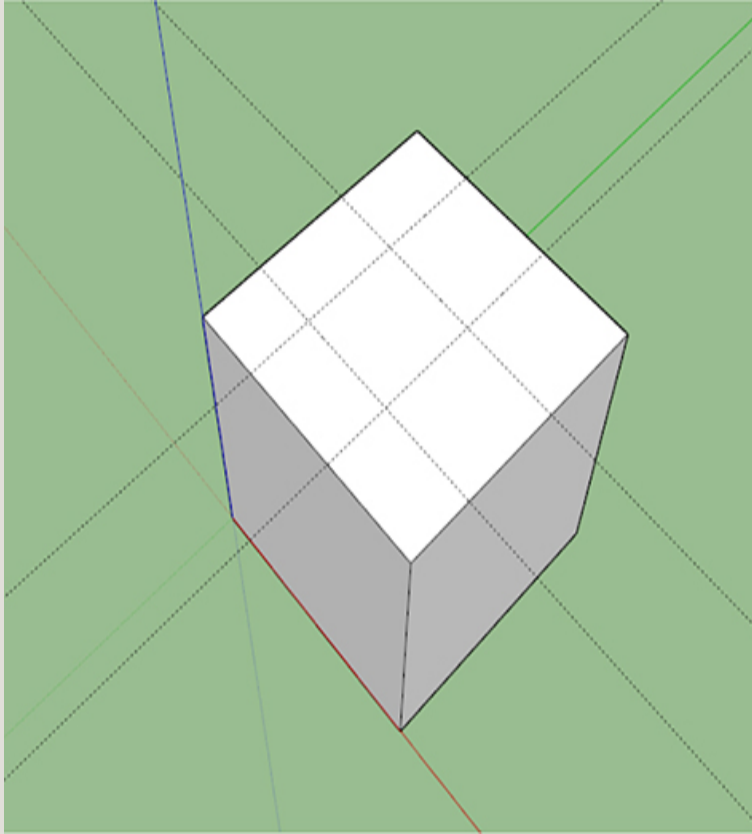

Figure 3-5 Drag four guidelines total, 2'3" apart.
4. Create three more guidelines, all 2'3" apart, for a total of four, as shown in Figure 3-5.